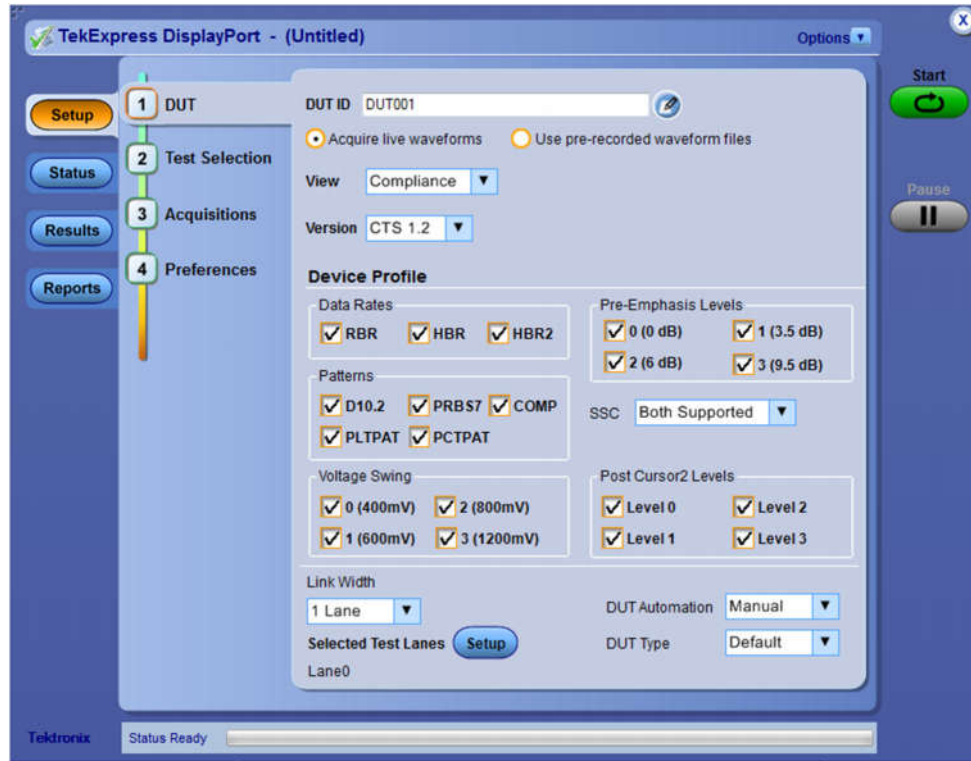

Figure 5: TekExpress DisplayPort Software-DP12
1. Connect the DUT as in Figure 5 above.
3. From the **(1) TekExpress DUT** menu's default configuration, make the following selections: